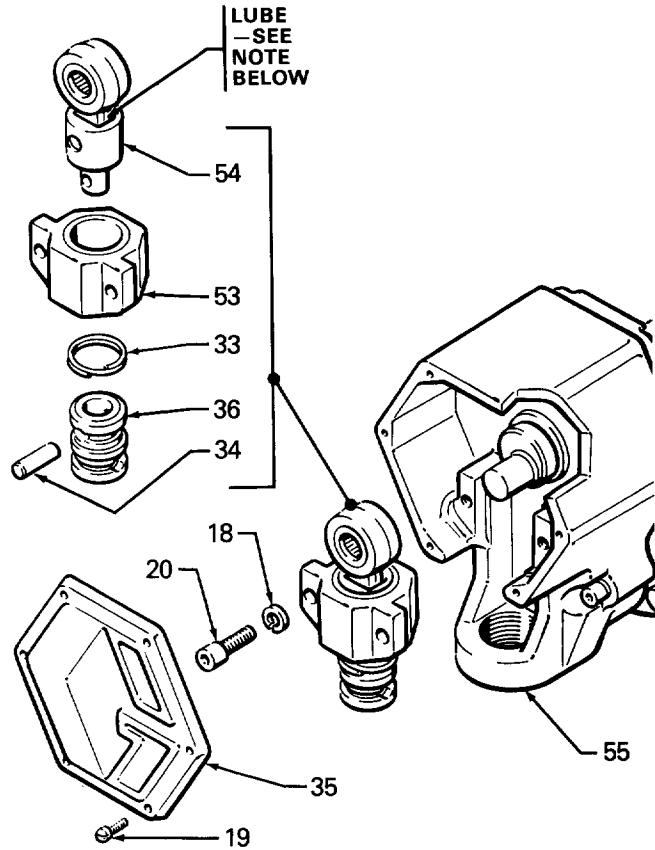

Fig 18
Remove pump as described on page 16. Remove the 6 screws (19) and cover (35). Remove the 2 screws and lockwashers (20 and 18). Remove bearing (53) and connecting rod (54), sliding connecting rod off of crankshaft. See Fig 18.